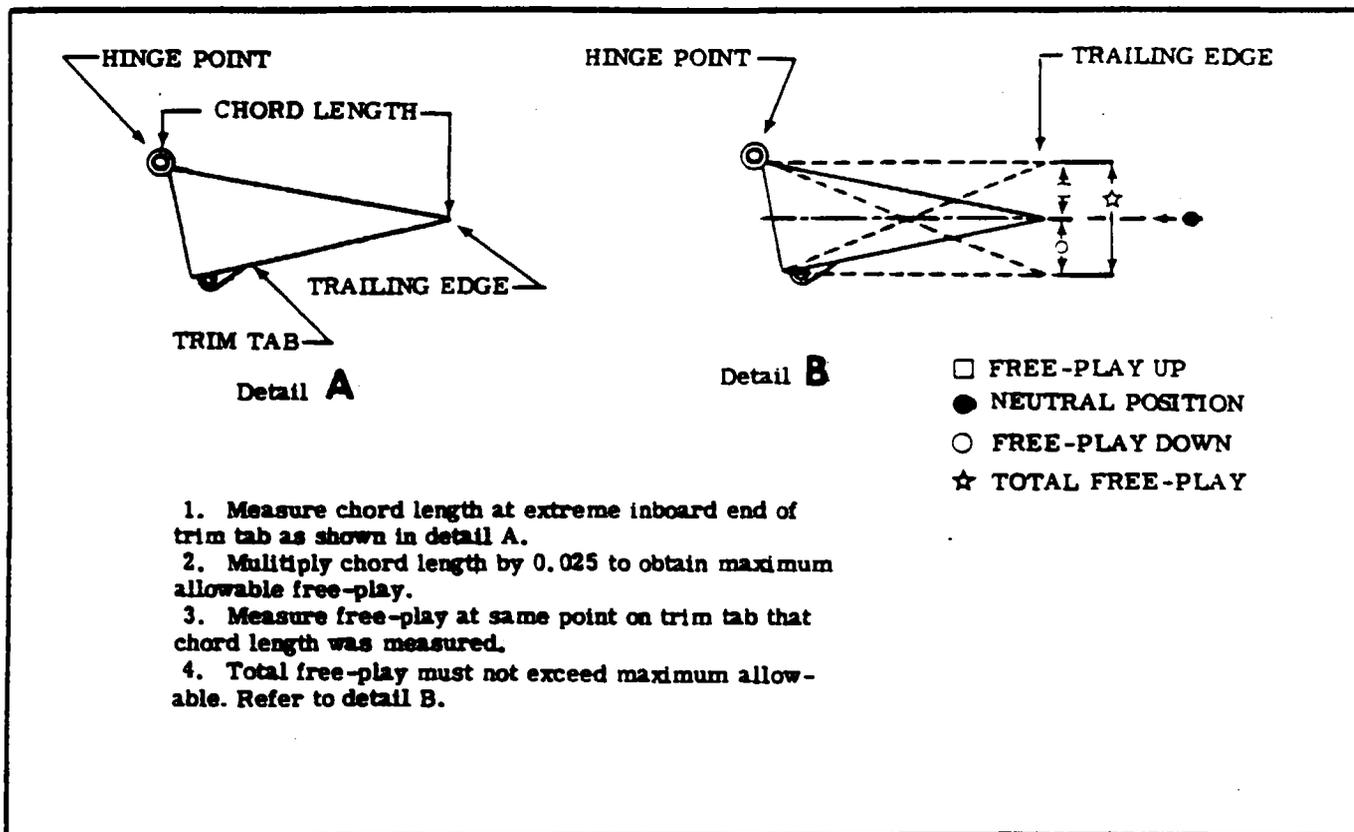

Figure 9-1A. Trim Tab Free-Play Inspection
- b. Determine maximum amount of allowable free play using formula shown in figure 9-1A.